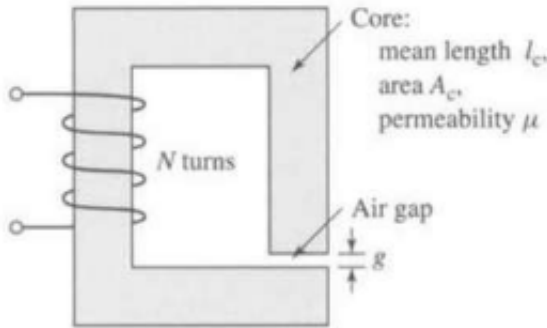

Figure 2
- **Question 6:** A magnetic circuit with a single air gap is shown in Fig. 2. The core dimensions are: